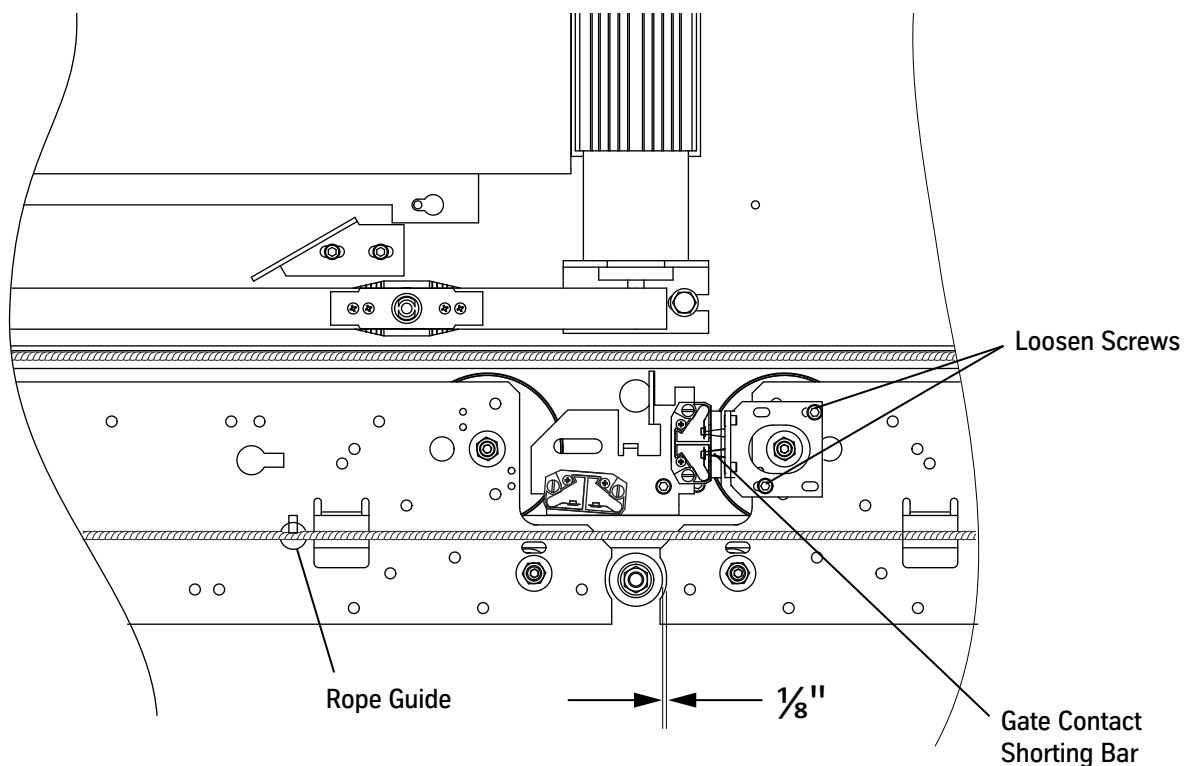

Figure 49 - Adjust Door Contacts/Door Lock Contact (Center-Opening Shown)
2. When the door lock pins are just touching the door contacts, verify that the measurement between the door hanger and the bumper is  $\frac{1}{8}$ ". See Figure 49. If the measurement is not  $\frac{1}{8}$ ":